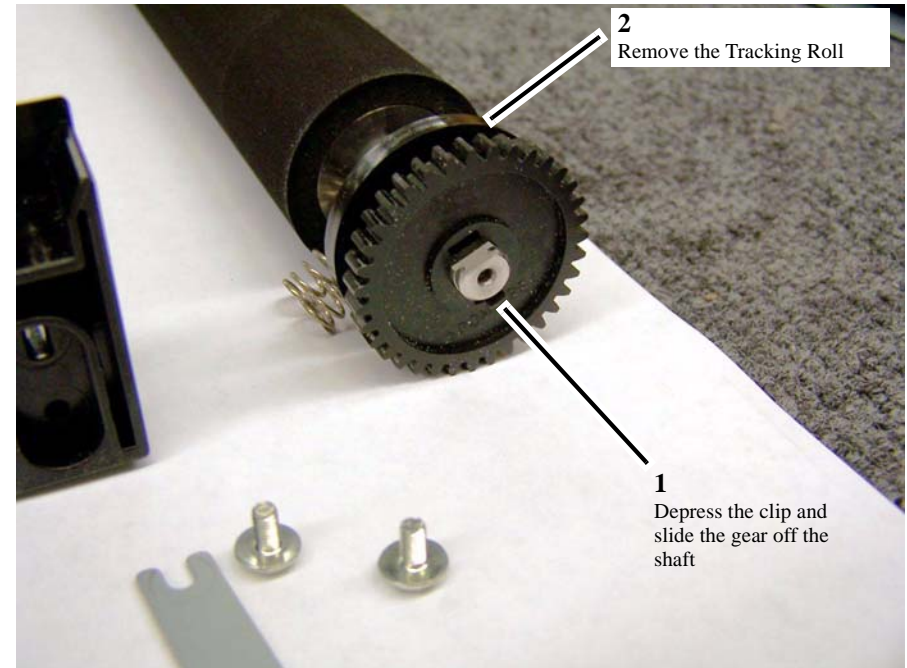

Figure 4 Removals at the right end of the BTR
- d. Depress the clip at the right end and remove the Tracking Roll and the Gear (Figure 4).